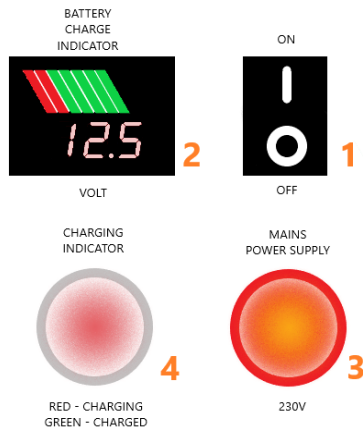

Fig. 7 Power system - mains mode
2. Turn on the power system using the **ON / OFF** switch located on the housing (**Fig. 7 pos. 1**);
4. **Fig. 7 pos. 3** - the light indicating the mains supply is on - it means that the **VBE-M** stunning unit is powered from the mains and not from the power system;
5. **Fig. 7 pos. 4** - the light indicating the battery charging is on:
6. **Fig. 7 pos. 2** - the voltmeter shows the battery charging voltage.